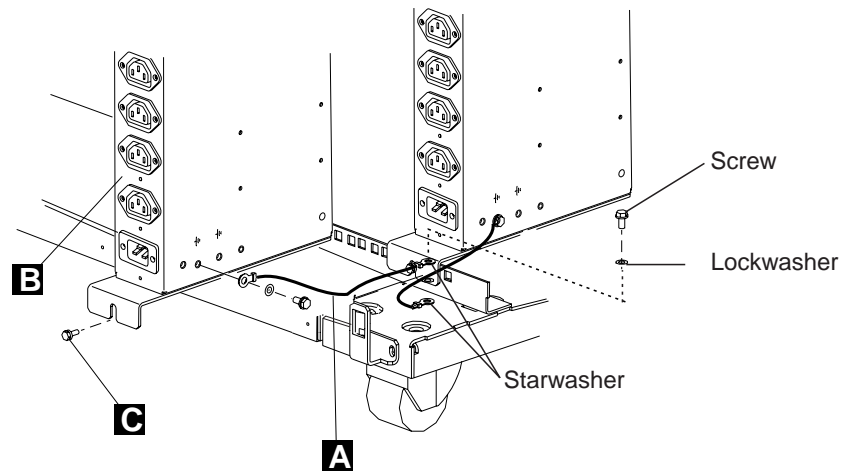

Figure 1-12. Installing the Second ac Outlet Distribution Box
3. ____ Refer to Figure 1-12 on page 1-13, using one lockwasher (PN 1622319), one starwasher (PN 1622347), and one screw (PN1673983), **connect** the ground jumper **A** (PN 63F2459) to the new ac outlet distribution box. Then, **install** the second ac outlet distribution box close to the first ac outlet distribution box and fasten using two screws **C** (PN 1621230).